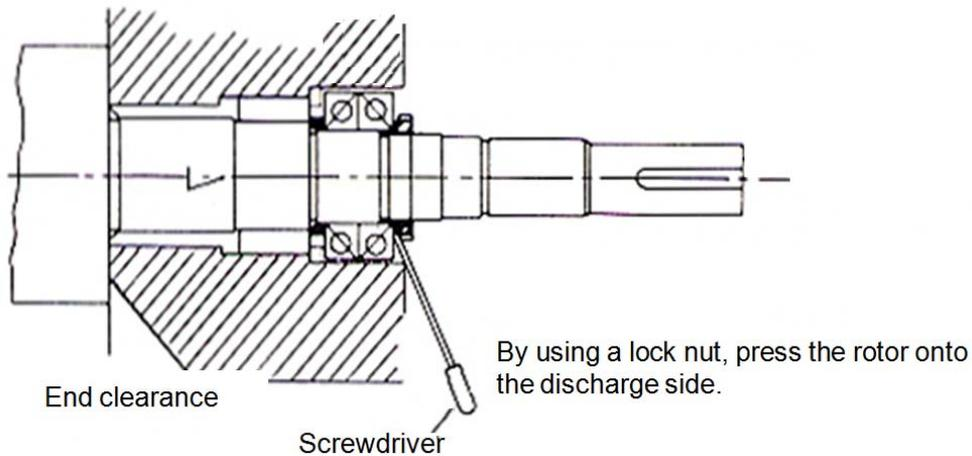

Figure 5-10 End Clearance Adjustment [I]
- a) Push the rotor to the discharge side while the thrust bearing inner ring is secured to the rotor shaft. Push the rotor from the suction side to the discharge side by using a jig (Teflon). Alternatively, by using a chamfered part of the lock nut, pull out the rotor with the edge of a flat blade screwdriver as shown in Figure 5-10.